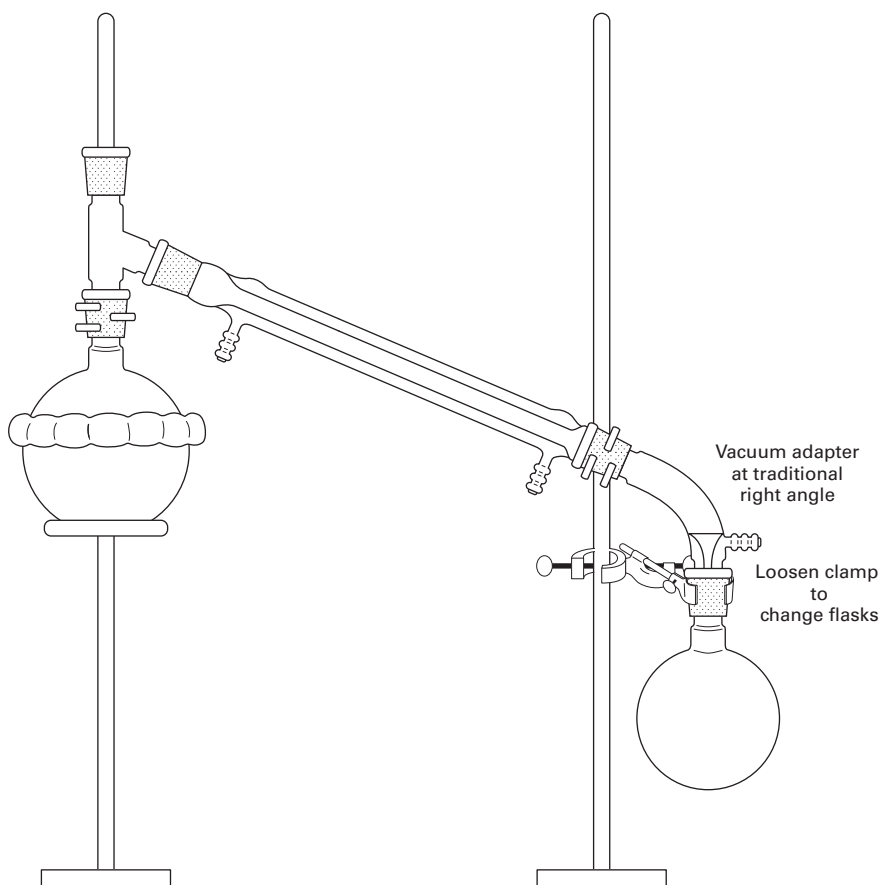

FIGURE 18.9 Distillation setup with receiving flask at usual right-angle position.
- b. There's a lot of room from the end of the vacuum adapter to the bench top. In this case, you'll have to set up another clamp (possibly another ring stand) and clamp the flask at the neck (Fig. 18.9). This will make changing the receiving flask a bit more difficult; you'll have to unclamp one flask before slipping another in and reclamping the new one.